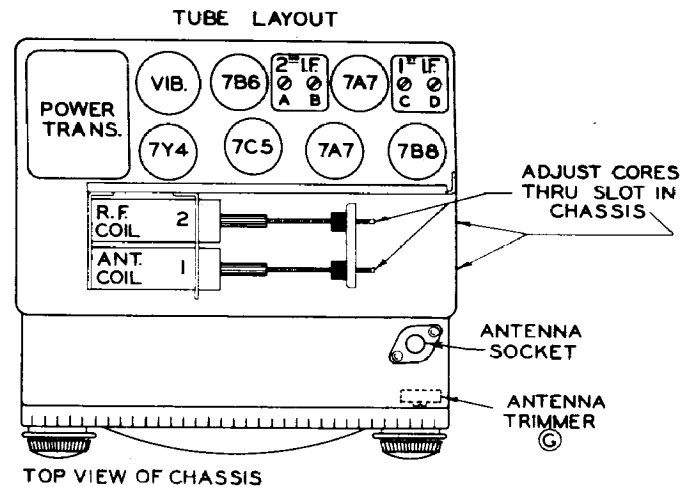

FIG. 7
Tube Layoutsee Figure 7
Trimmer Locationssee Figures 7 and 8
- 5—Adjust trimmers A-B-C and D (Fig. 7) for maximum output. Repeat the operation to assure accurate alignment.
- 10—Adjust the antenna and R.F. cores (1 and 2—Fig. 7) for maximum output reading.